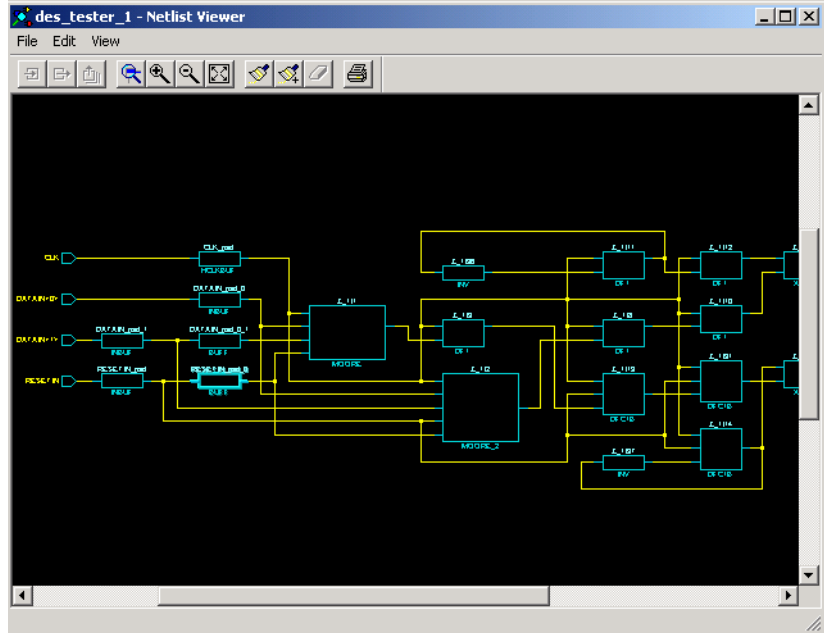

Figure 3-9. Netlist Viewer Starts
1. **Start Netlist Viewer.** Click *Netlist Viewer* in the Design Flow window. The Netlist Viewer starts and displays your netlist, as shown in Figure 3-9.